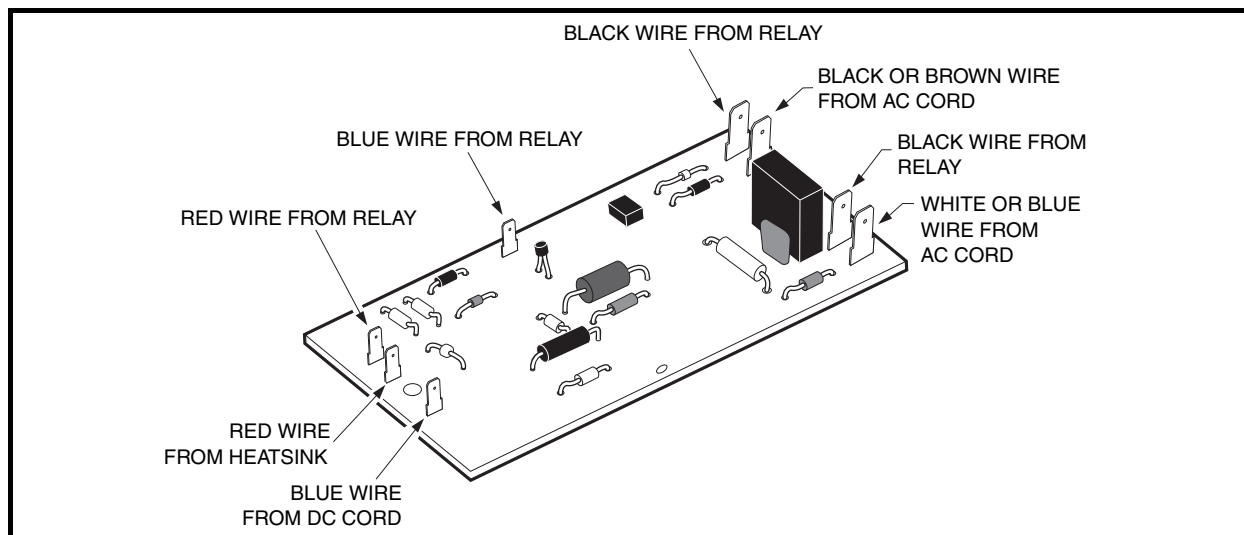

Figure 6-8 Control Board
2. Disconnect white or blue wire of AC cord at terminal on control board (**Figure 6-8, Page 6-13**). **See following DANGER.**